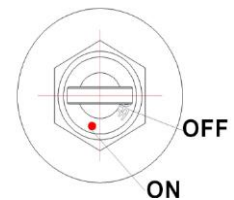
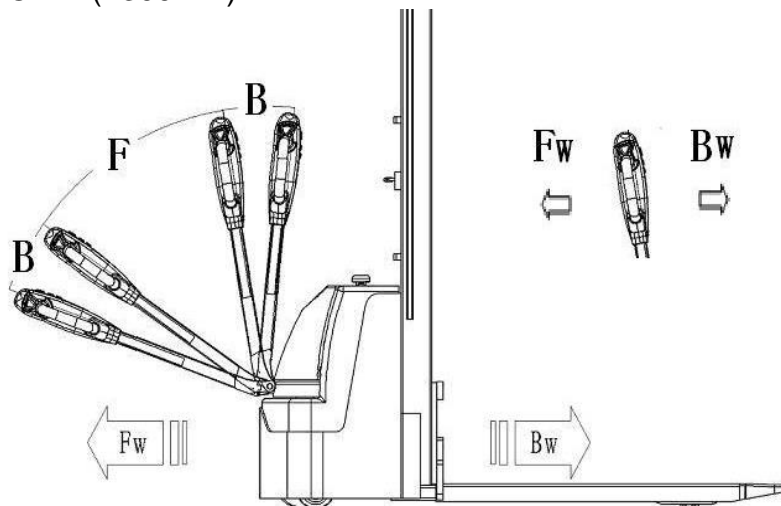

Fig.8: Key switch
Fig.11: Operating direction
After starting the truck by turning the inserted key to the "ON"- position (fig. 8); and eventually by pulling the emergency button carefully, move the tiller to the operating zone ('F', fig.11).
Turn the accelerator button (11) to the desired direction forward 'Fw.' Or backwards 'Bw.'(fig. 11).